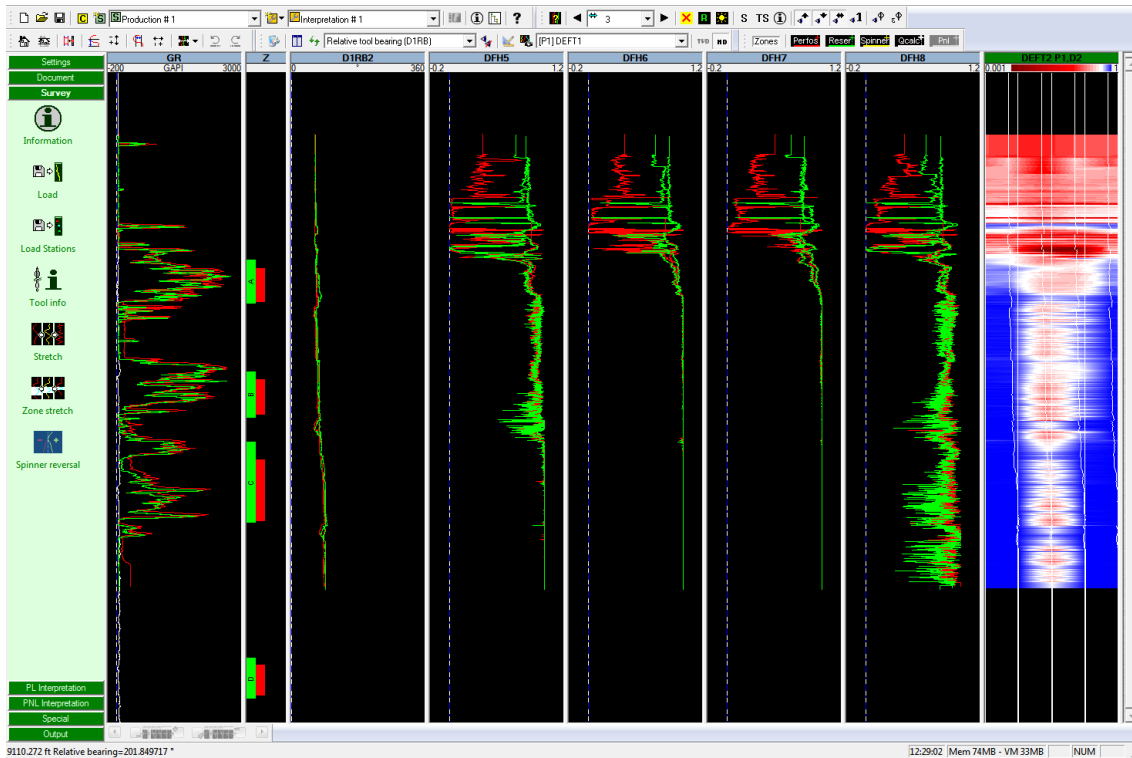

Fig. B05.18 • DEFT2
- Re-organize the screen to show the DEFT2 holdup and relative bearing channels: DFH5, DFH6, DFH7, DFH8, D1RB2, Fig. B05.18.